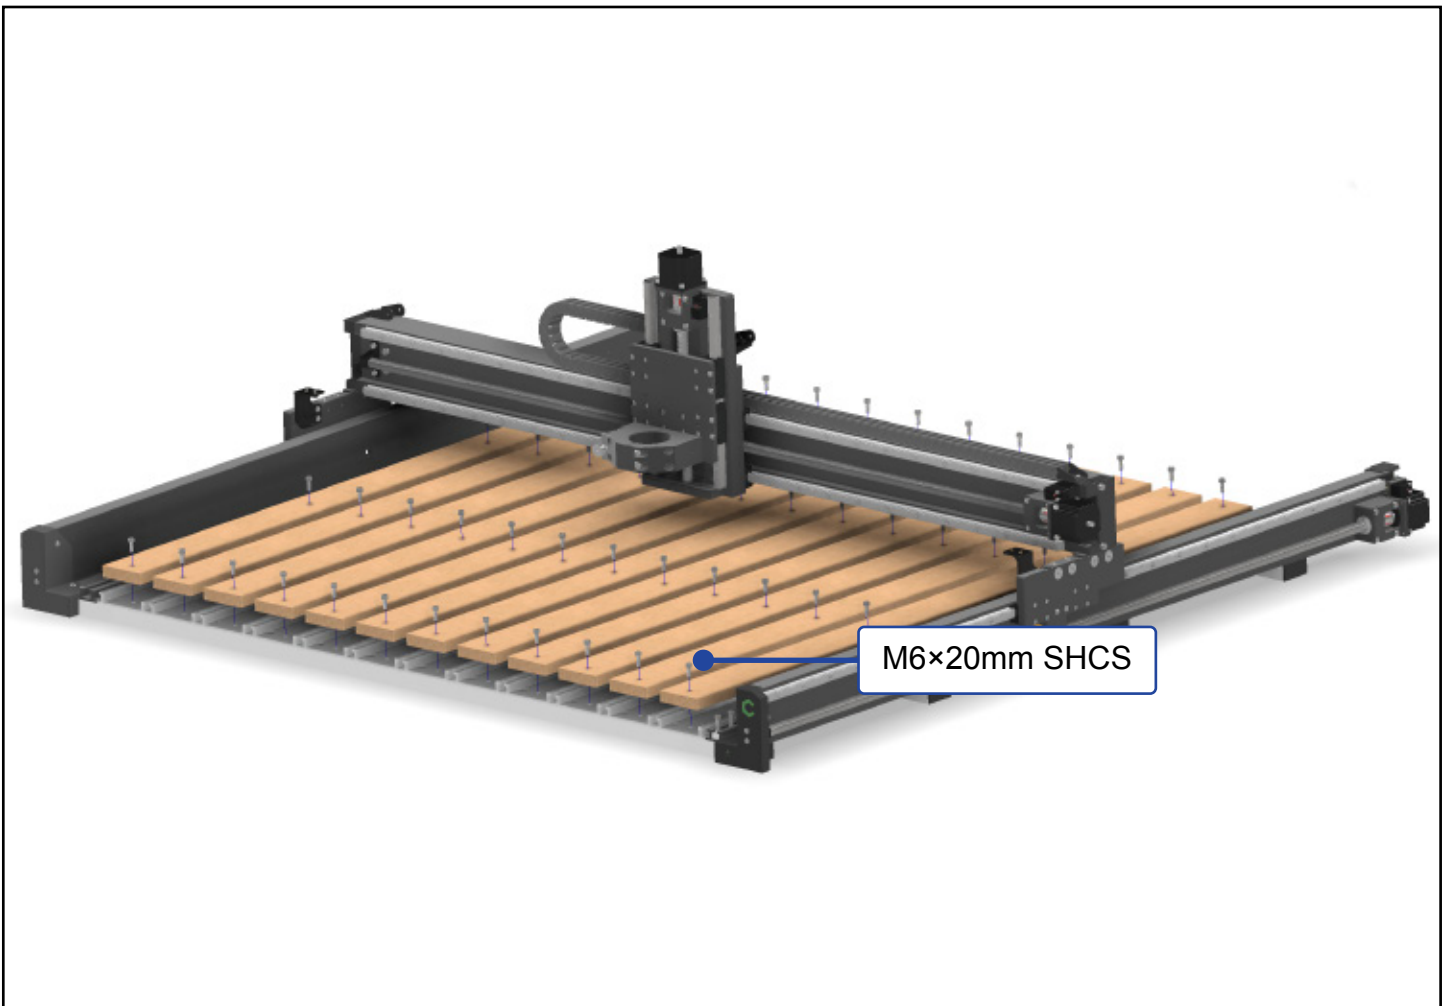

Figure 3-2
1. Position the ten (10) MDF strips inside the Hybrid Table extrusions. See **Fig. 3-2**.
2. Use a 5mm hex key and four (4) M6×20mm SHCS to loosely attach each MDF strip.